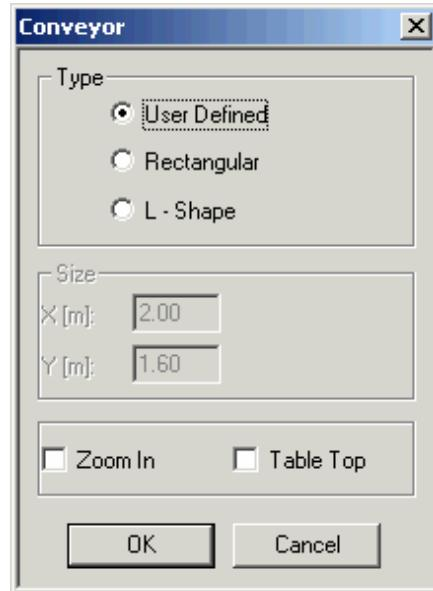

Figure 8-11: Conveyor Dialog Box
2. From the **General** tree, select **Conveyer** and then click **OK**. The Conveyer dialog box is displayed, as shown in *Figure 8-11: Conveyor Dialog Box*.
2. From the **General** tree, select **Conveyor** and then click **OK**. The Conveyor dialog box is displayed, as shown in Figure 8-11: Conveyor Dialog Box.